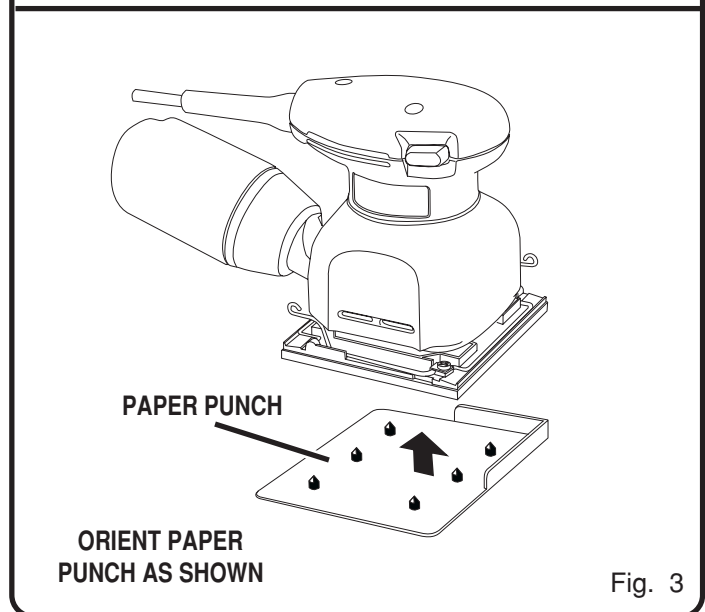

Fig. 3
See Figure 3.
2. Align sander cushion over the paper punch. See Figure 3.